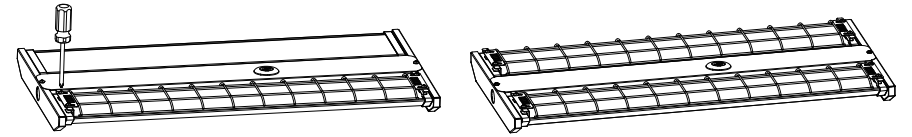

Figure 8
- Step1. Clamp the iron pieces on both ends of the wire guard into the plug of the light-emitting modules, push them to the end, and tighten them with screws. (Figure 8)